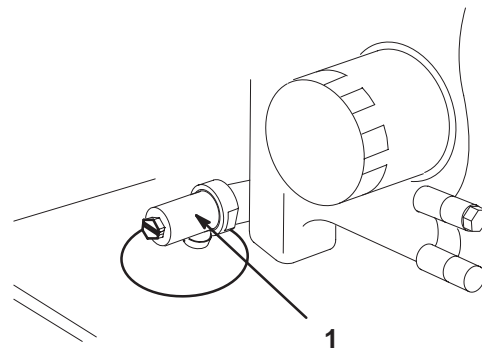

Figure 38
3. Place a pan below the oil drain. Use either a flat screw driver, 3/8" wrench or 10mm wrench to open valve (Fig. 38).
4. Rotate valve end clockwise to close valve. Rotate valve end counterclockwise to open valve (Fig. 38).
5. When oil has drained completely, close the drain valve (Fig. 38).